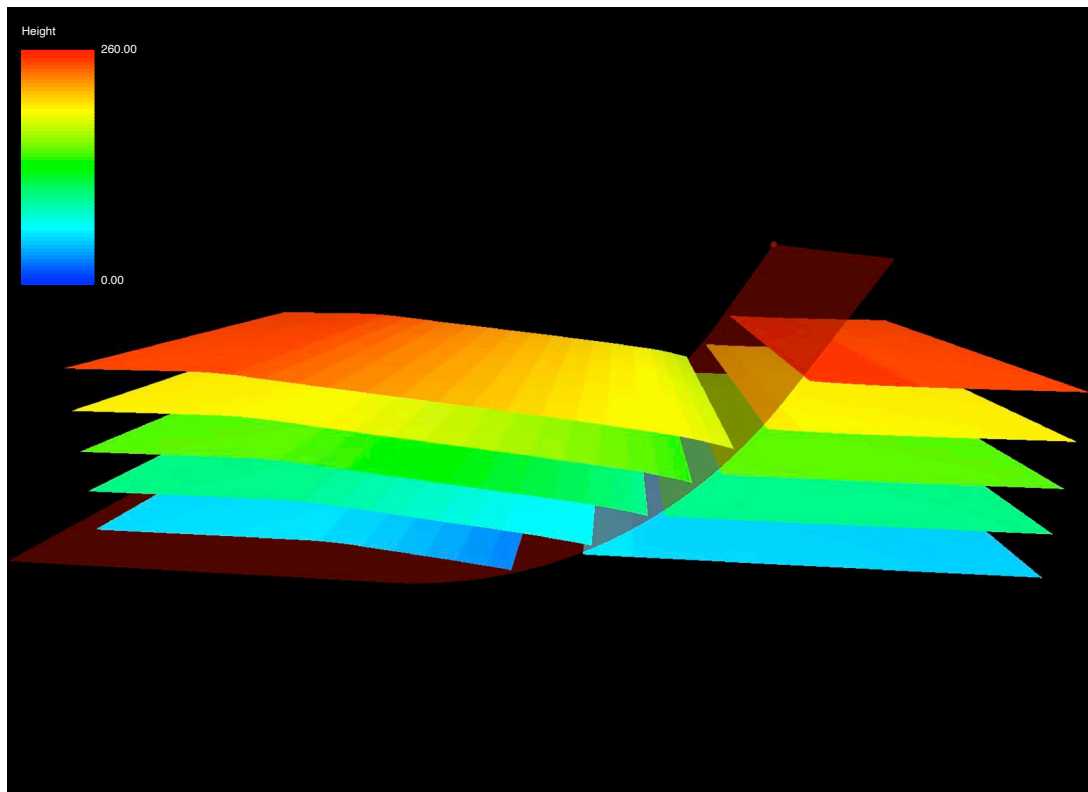

Figure 30. Rollover produced by  $30^\circ$  inclined shear over listric normal fault.
*Modify* panel. You can then move the beds over the listric fault. Figure 30 shows a rollover created by normal faulting over a listric fault, with inclined shear (*Similar* backlimb kinematics) and a shear angle of  $30^\circ$  (positive shear angles correspond to shear planes antithetic to the fault). The beds are colored by elevation. Run a similar model but with variable slip. Try also reversing the slip (fault inversion). Compute strain.